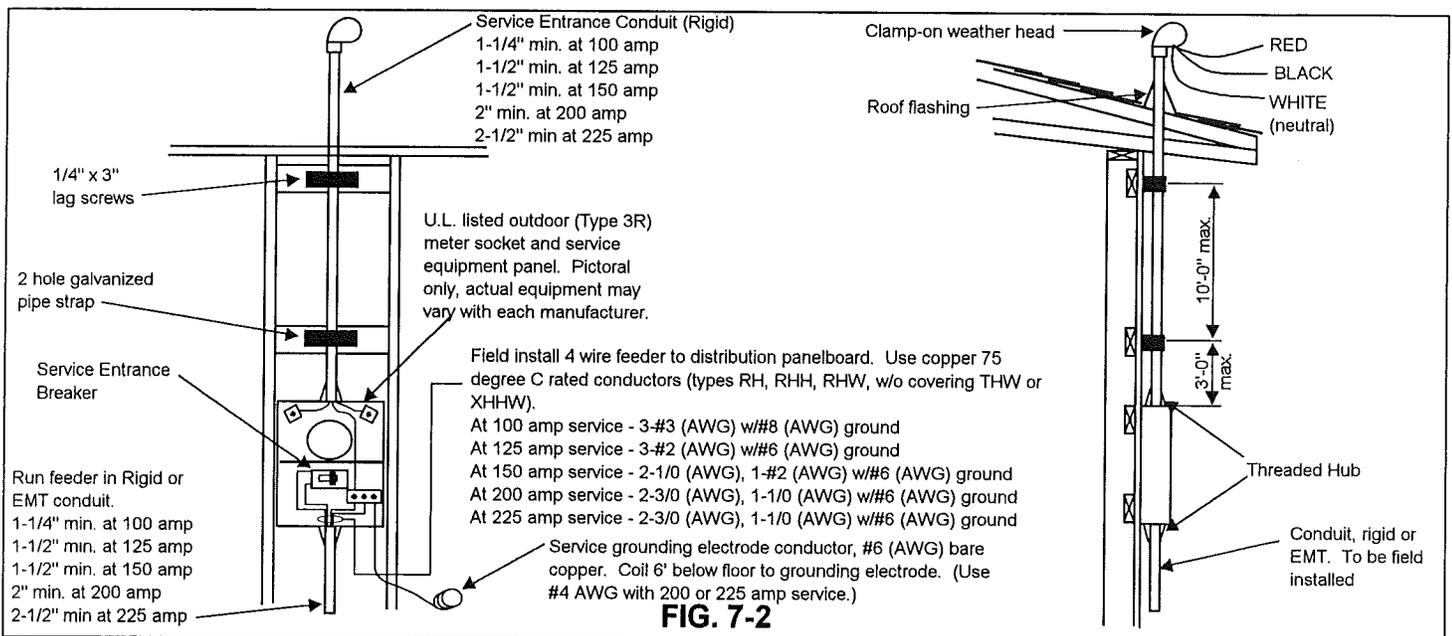

FIG. 7-2
9. See Fig. 7-2 below.
3. Install the mast head and the feeder conductors as shown in Fig. 7-2 below.